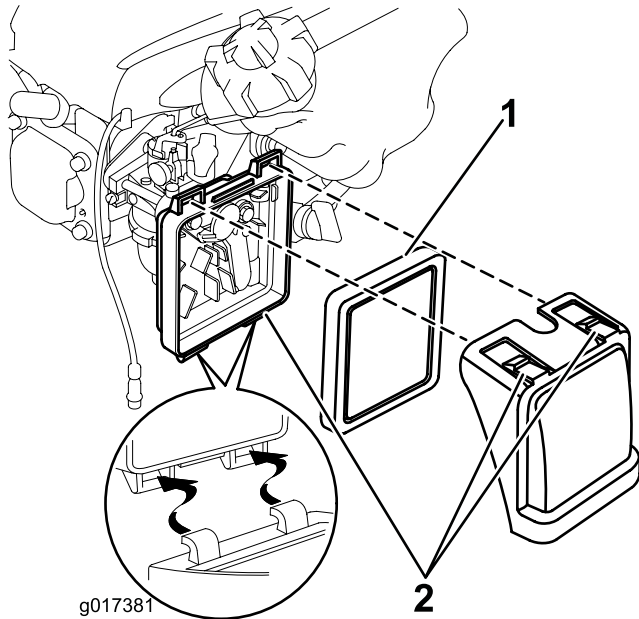

Figure 16
1. Press down on the latch tabs on top of the air cleaner cover (Figure 16).
2. Open the cover (Figure 16).
3. Remove the filter (Figure 16).
6. Insert the filter into the air cleaner (Figure 16).
7. Install the cover (Figure 16).